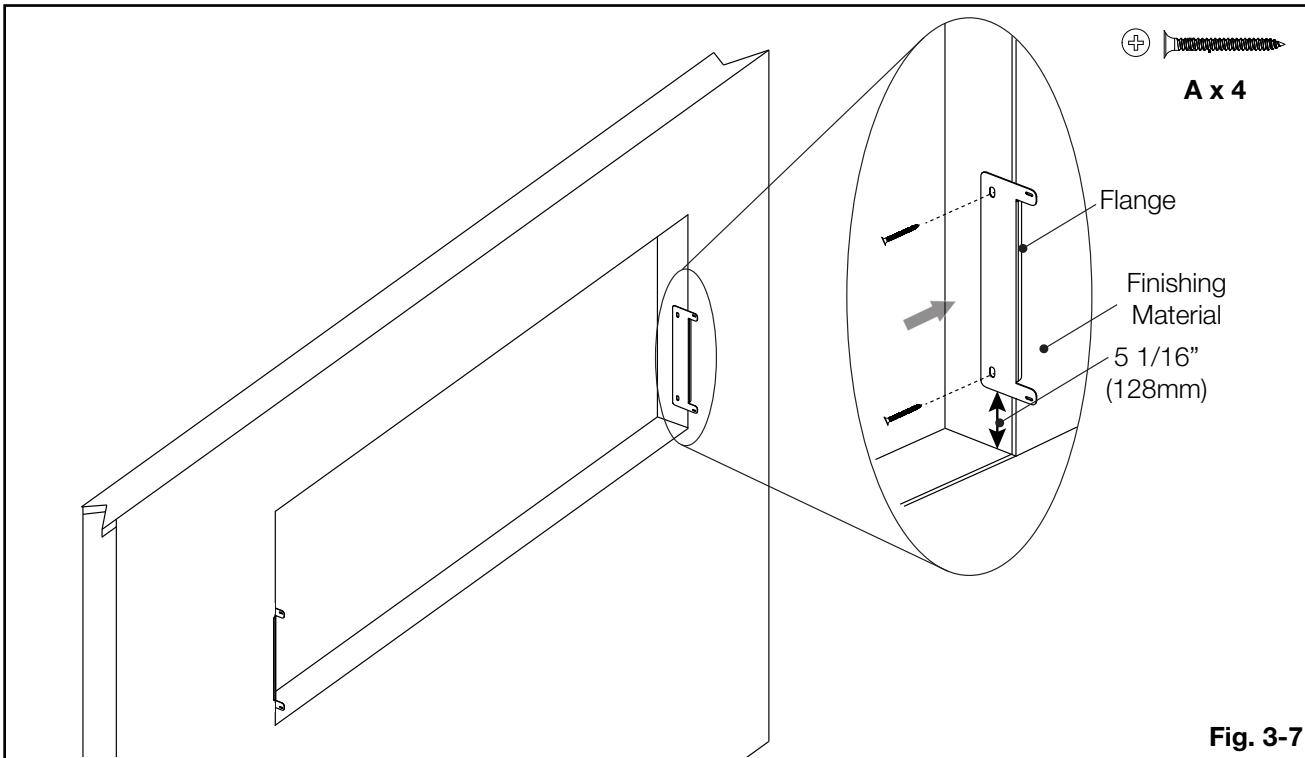

Fig. 3-7
- A. Install the framing brackets by aligning the flange on the finishing material, and 5 1/16" (128mm) from the bottom of the framing opening (**Fig. 3-7**).